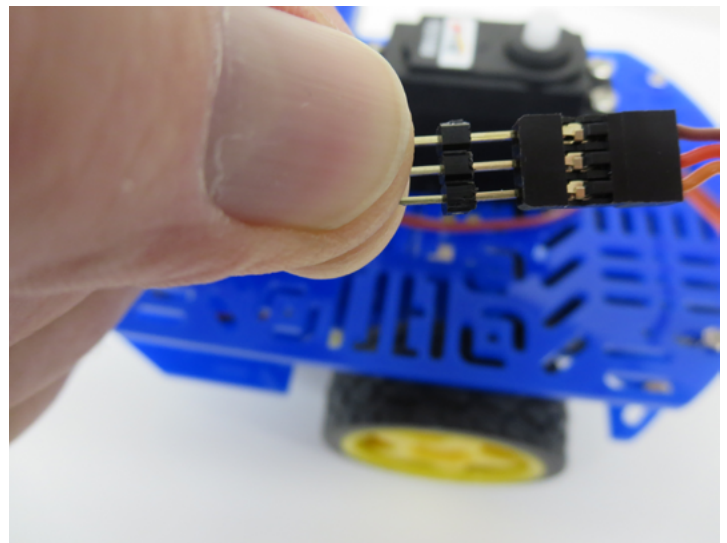

Fig.18
1. Insert the 3 position M/M Header into one end of the Servo Motor Cable as shown in Fig. 18.